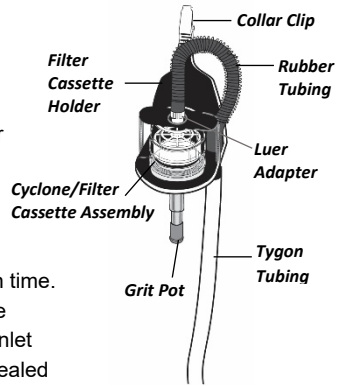

Figure 3.
4. Insert cyclone/cassette assembly through large opening of filter cassette holder (see *Figure 3*). Ensure assembly is seated firmly in holder by inserting cyclone’s side pin (small round nodule on rim of cyclone) into notch in filter cassette holder.